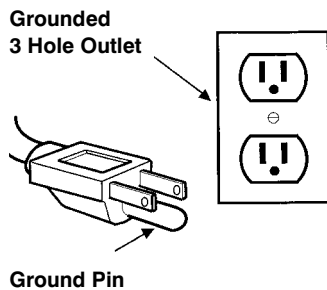

FIG. 3.
8. Plug power supply cord into a grounded wall outlet (Figure 3).